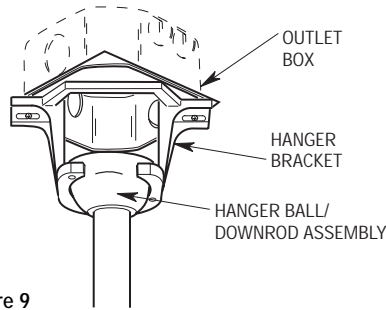
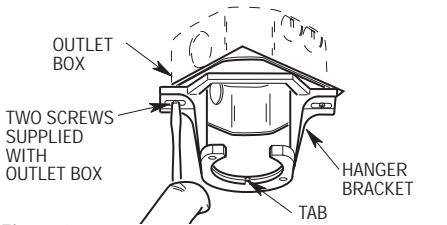

Figure 9
Figure 8
- 1. Securely attach the hanger bracket to the outlet box using the two screws supplied with the outlet box (Figure 8).
- 2. Carefully lift the fan and seat the hanger ball/downrod assembly on the hanger bracket that was just attached to the outlet box (Figure 9). Be sure the groove in the ball is lined up with the tab on the hanger bracket (Figure 8).